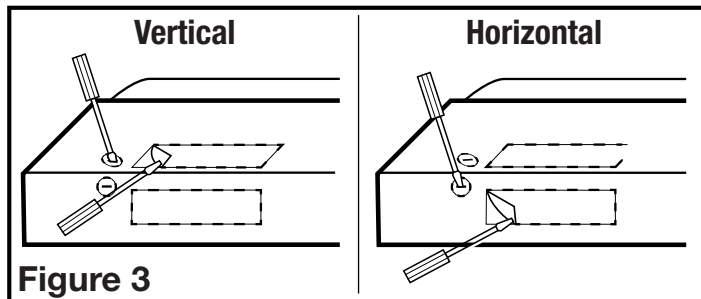

Figure 3
2. Remove the appropriate square knockout by inserting a screw driver under the edge and break the tabs holding it in place. Peel back with pliers (**Figure 3**).
3. Determine where the electrical service will enter the hood and remove the appropriate electrical knockout by inserting a screw driver into the slot and rocking back and forth until the knockout comes loose (**Figure 3**).